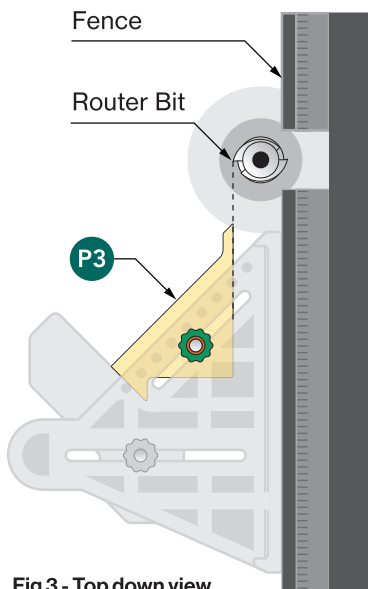

Fig 3 - Top down view
- C.4.** Align the bottom of P3 with the blade/bit as desired [Fig 3].